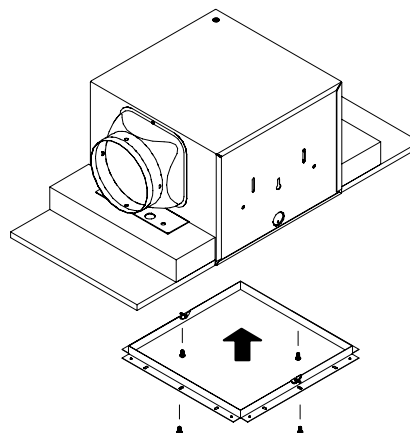

Figure 4
3. The ceiling mounting flange is secured to the housing via 2 screws on the side of the housing, and to the finished ceiling using drywall screws. (fig 4)